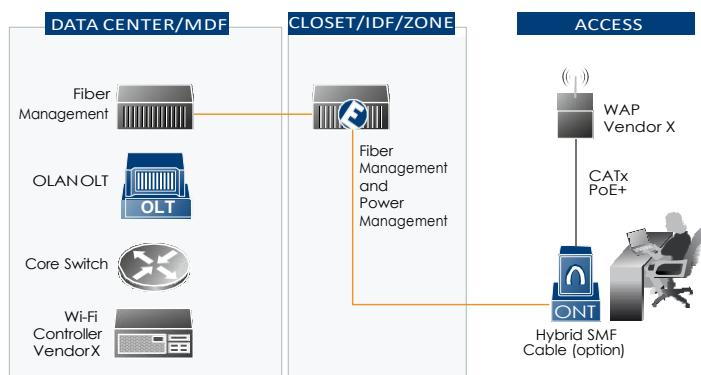

Figure 6: Wi-Fi over Optical LAN architecture
**Wireless** — Passive Optical LAN can also be used for wireless backhaul transport of the access points traffic. It can do so in two architectures. First, there is the stand-alone static Wi-Fi architecture with no robust controller functionality. In this scenario, Passive Optical LAN can provide the benefits of lower equipment cost, reduced energy and collapsed cabling infrastructure. There are also wireless access point (WAP) features and functionality integration that can be accomplished with Passive Optical LAN via the centralized management platform. Passive Optical LAN provides a greater system reach for improved performance and coverage for Wi-Fi service. As Passive Optical LAN interoperates with established Wi-Fi vendors, it allows for Wi-Fi controller functionality to be provided by best-of-breed Wi-Fi manufacturers without limiting the customer's options [Figure 6]. The controller functionality adds dynamic provisioning, interference correction, load balancing and coverage optimization as is required in a true enterprise deployment. Today, there is Passive Optical LAN deployment with industry leaders like Cisco, Aruba, Ruckus and Meru.